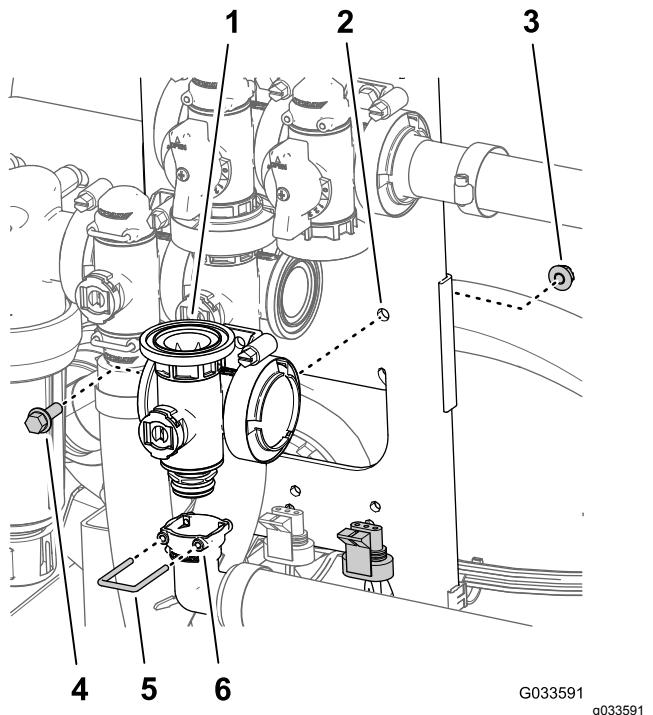

Figure 115
5. Align the socket of the 90° outlet fitting onto the coupling fitting at the bottom of the manifold for the master-boom valve (Figure 115).
6. Secure the outlet fitting coupling fitting by inserting a retainer into the socket of the outlet fitting (Figure 115).